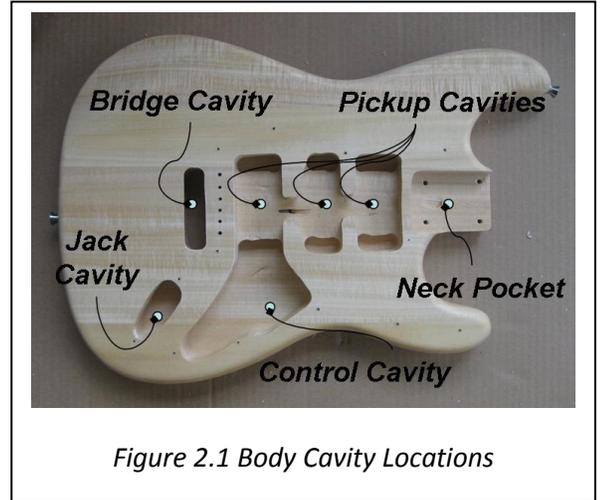

Figure 2.1 Body Cavity Locations
1. Check Neck pocket on the Body for pre-drilled (4) mounting holes (Figure 2.1).
If the Body has 6 holes drilled to mount the Bridge (shown in Figure 2.1), skip to 2.4.
1. Mount the Bridge (item 4 on the material list) in the Bridge cavity using 2 of the mounting screws, one in each end hole – tighten the two screws until they're flush with the top of the bridge plate, allowing the Bridge Plate to pivot on the outside screws.
2. Place the Pick Guard in the Pick Guard Cavity (reference Figure 2.1), temporarily running all wiring through the tunnel to the output jack cavity.
3. Carefully move the Pick Guard so that it is aligned with the Neck Pocket, the contours of the body and the Bridge – ensuring that the Bridge is free to pivot. Mark & pre-drill 2 holes in the Body for mounting the Pick Guard, one on each side of the Bridge. Using 3/8" screws (item 3 on Material list), attach the Pick Guard (2 screws) – again ensuring that the Bridge can move.
1. Check for pre-drilled holes (2) for the Output Jack (material list #9), reference Figure 2.1 & 2.8.
- a. Insert Output Jack in Jack Cavity (Fig 2.1).